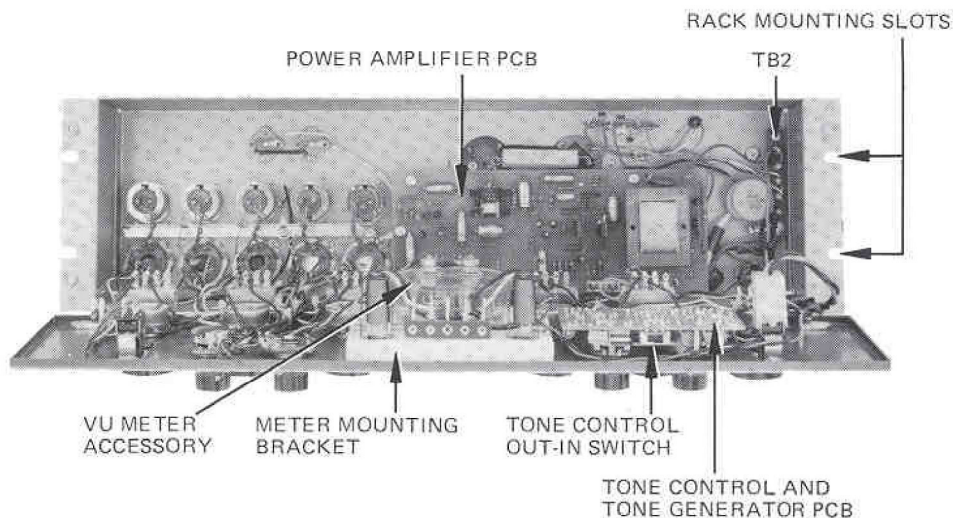

Figure 1. Front View with Hinged Panel Open
TONE CONTROL OUT-IN switch	Disconnects HF and LF tone control when tone control is inappropriate for application, such as Acousta-Voicing®.* Located on back of front panel on tone control PCB (see Figure 1).
Step 1. Remove four screws securing front panel, open and lower panel (see Figure 1).
- Step 2. Locate terminal board TB2 beneath power transformer T1 (see Figure 1).